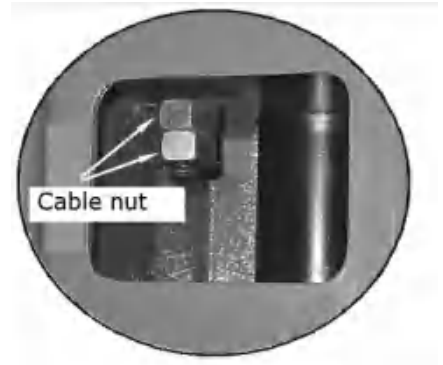

Fig. 41
1. Adjustment of synchronous cable (See Fig. 41)